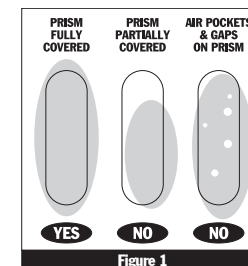

Figure 1
- 2 Gently close the daylight plate over the prism. The sample solution should spread as a thin, even layer in between the daylight plate and the prism. By looking through the daylight plate, ensure that the sample solution covers the ENTIRE surface of the prism. If there are bubbles and gaps or if the sample is only on one portion of the prism, the sample solution must be reapplied (Figure 1). Inaccurate readings will result if the prism is not covered correctly.
- 3 Gently close the daylight plate over the prism. The distilled water should spread as a thin, even layer in between the daylight plate and the prism. By looking through the daylight plate, ensure that the distilled water covers the ENTIRE surface of the prism. If there are bubbles and gaps or if the distilled water is only on one portion of the prism, the distilled water must be reapplied (Figure 1). Inaccurate calibrations will result if the prism is not covered correctly.